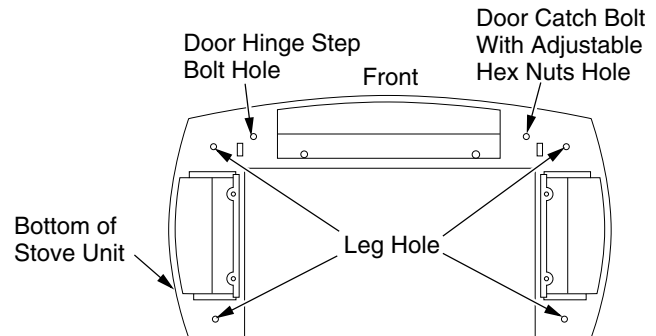

Figure 9 - Locating Threaded Holes for Legs and Door Attachment
9. Fasten each leg to stove with four (4) M8 x 1.25 - 20mm bolts. Use a flat washer and lock washer with each bolt. Tighten bolts into threaded holes on stove body (see Figures 9 and 10). Use an adjustable wrench or a 12mm and 6mm socket.
10. Attach stove door by inserting step bolt through door hinge pivot hole and into threaded hole in stove body (Figures 9 and 11). Use an adjustable wrench or a 12mm socket to fasten step bolt. Tighten step bolt until snug. Make sure door moves freely.
11. Install door catch bolt (M8 x 1.25-55mm with two M8 hex nuts) into threaded hole on stove body (see Figure 9). Use an adjustable wrench or a 12mm socket. The catch bolt has two hex nuts attached to it (see Figure 12). The top nut is a bolt stop and the bottom nut is for door leveling adjustment.